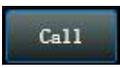

Figure 6.1.1
1. Shown in Figure 6.1.1, click  , the device can be switched of POWER ON or STANDBY, green means POWER the ON state, yellow means STANDBY state.